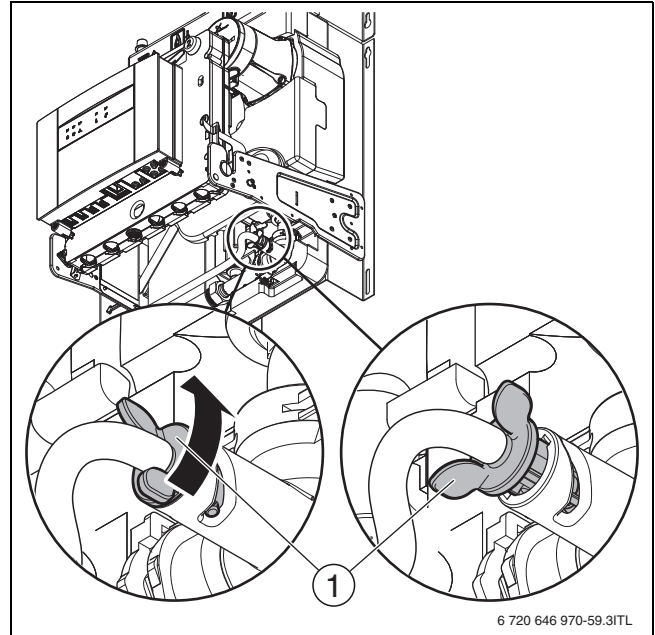

Fig. 53 Draining water from the hybrid manager
- ▶ Push the drain hose onto the drain valve (fig 53, Page 49).